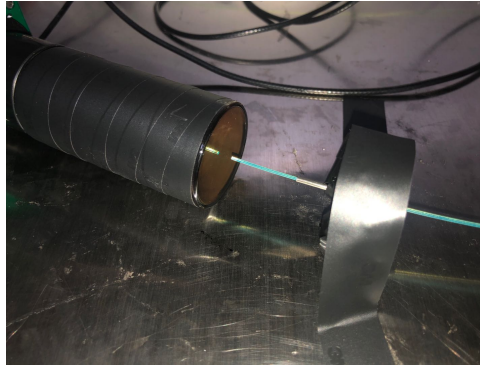

Figure 1: Distance test setup. The fiber is fixed, the distance is changed by moving the PMT.
**Test Process:** refer to Fig.1.